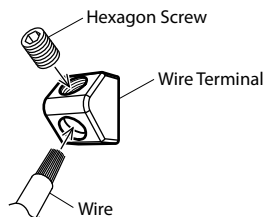

Fig. 9
3. Tighten the set screw with the hexagon wrench (included) to secure the lead. (Fig. 9)